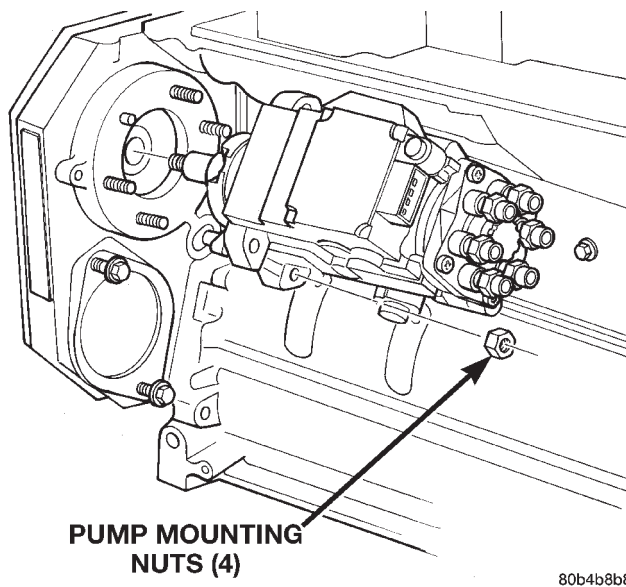

Fig. 70 Injection Pump Mounting Nuts
(14) Remove 4 injection pump-to-gear housing mounting nuts (Fig. 70).